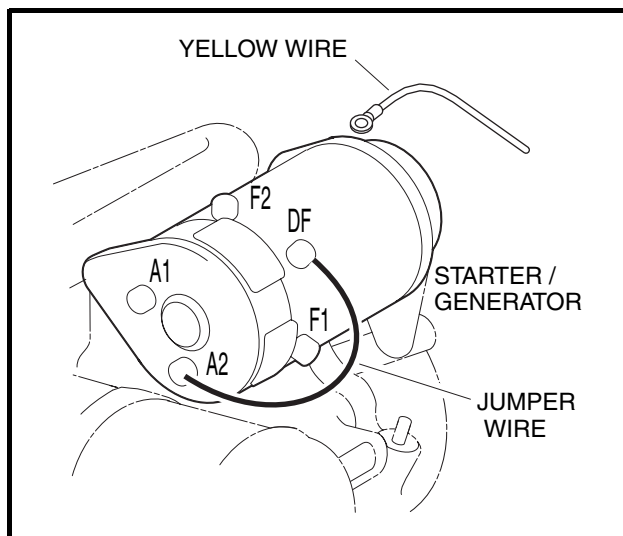

Figure 11-20 Jumper Wire Ground – DF to A2
3. Disconnect the yellow wire from the DF terminal on the starter/generator. Cover the connector on the yellow wire to make sure the yellow wire will not short to ground. Then, using a jumper wire, ground the DF terminal to the A2 terminal (**Figure 11-20, Page 11-22**).